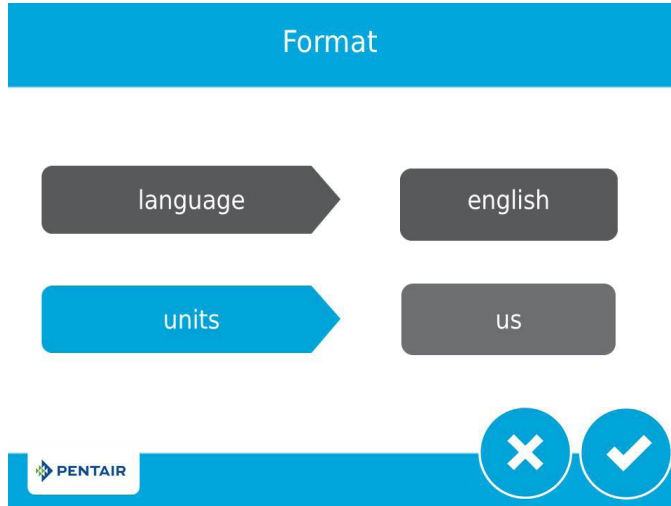

Figure 3 Format Screen
1. After plugging in the unit, the Format screen (Figure 3) is displayed.